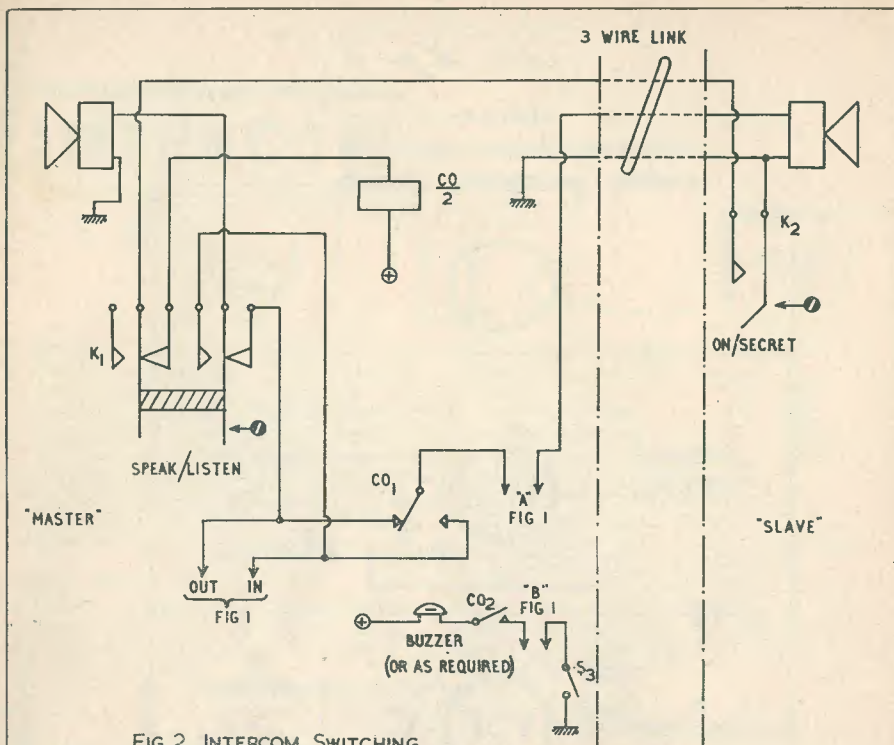

FIG. 2 INTERCOM SWITCHING
- (1) Intercom
- (2) Amplifier only, "slave" disconnected
- (3) Amplifier only, "slave" connected in parallel with main loudspeaker
When switched to (2) or (3) and the "slave" wishes to speak, operation of relay CO (Fig. 2) completes a circuit via  $S_{2c}$  for the audible or visual alarm. Switching to (1) immediately restores intercom facilities.
Fig. 2 shows a comprehensive system requiring a three-wire connection between the stations.  $K_1$  and  $K_2$  are Post Office type key switches, it being an advantage if  $K_1$  is of the non-locking type, i.e. to return to normal when finger pressure is removed. CO is a relay of the well-known 3000 type. The relay and key switches are obtainable on the surplus market.